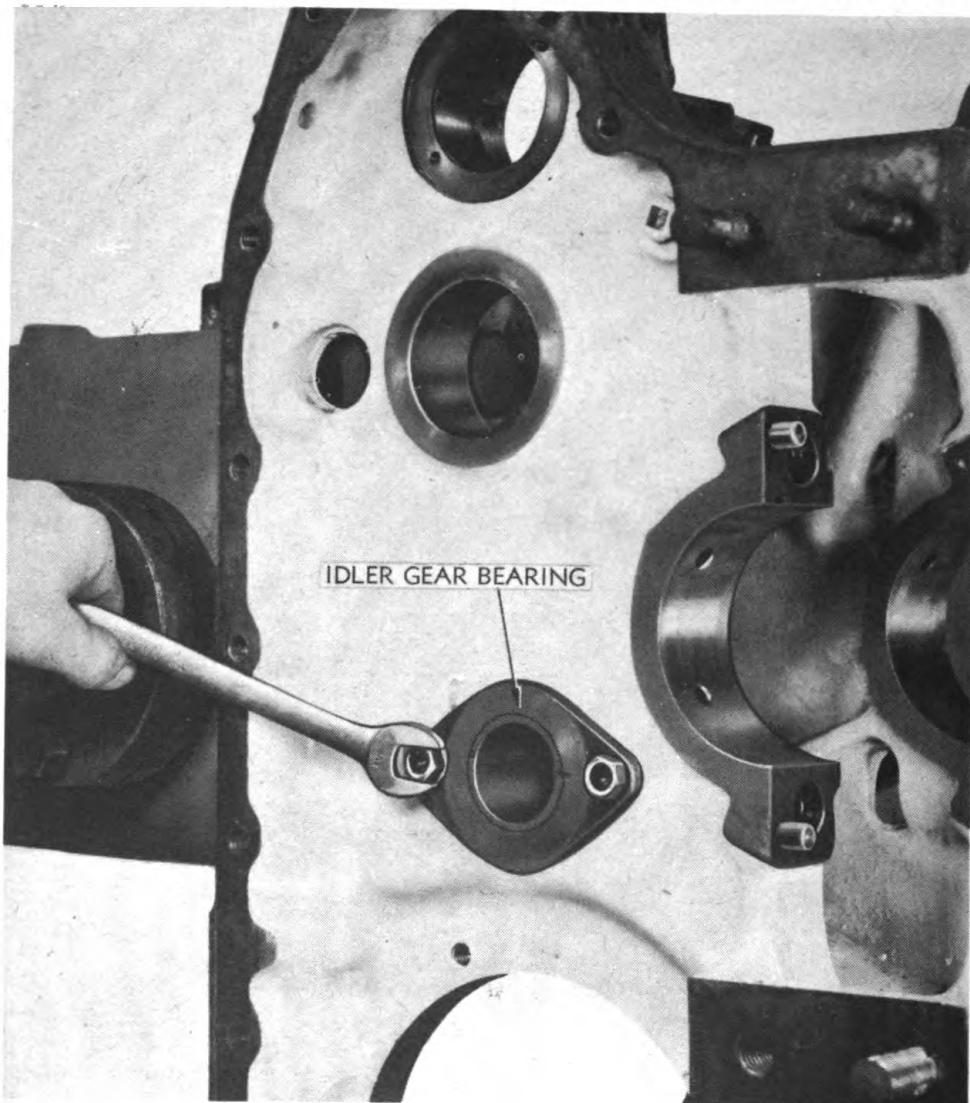

Figure 29 — Removing Idler Gear Bearing
i. Remove Idler Gear Assembly. Pull idler gear and spindle from cylinder block (fig. 28). Remove the two special idler gear bearing retaining cap screws (fig. 29) and pull bearing from cylinder block.